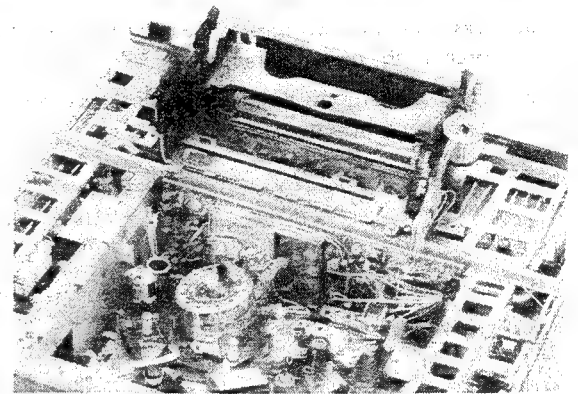

Fig. 2-6 Mechanism functions
- 1) Put the cassette housing on the hinter bracket with the surface downward as shown in Fig. 2-6. At this time, do not disengage the connector from the cassette housing board.